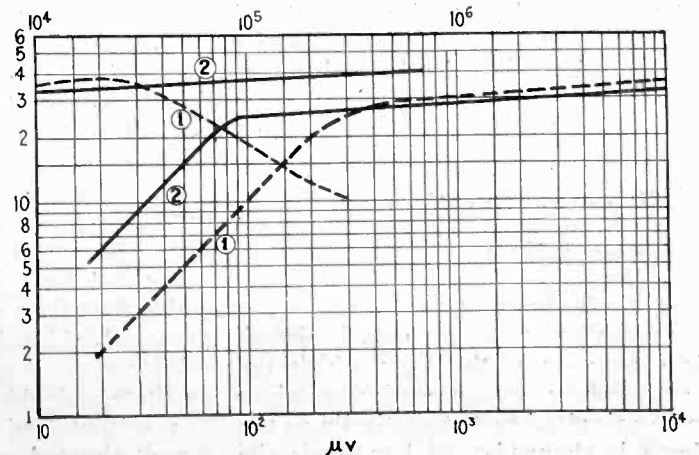

Fig. 5—Results of substituting amplified AVC for conventional circuit
A possible effect of the above is shown in Fig. 5. Here the performance of a certain receiver with direct AVC is compared with that resulting after the receiver had been changed over to employ the circuit described. The original AVC characteristic is shown by curve (1); it is seen that overload occurs at about 20,000 μv , in the antenna. The delay employed in this case was 30 volts. With the new detector circuit, the delay used being 50 volts, curve (2) resulted. The threshold is now much sharper and has been lowered to 90 μv , and for higher inputs the characteristic is a straight line, as nearly as it may be plotted, up to the highest input available, which was 700,000 μv .